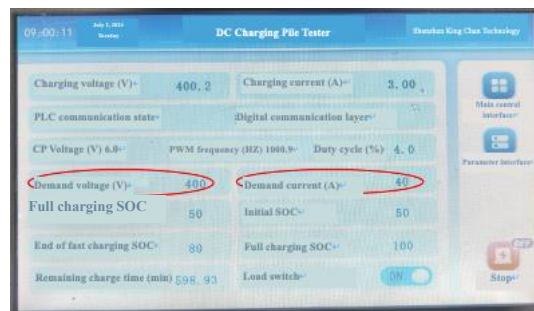

Figure 8-5
3. Insert the connector into the BMS simulator, input the corresponding requested voltage and current in the BMS simulator, and carry out the aging test after the simulator is connected to the charging pile. Pay attention to the change of voltage and current during the test, as shown in Figure 8-5.